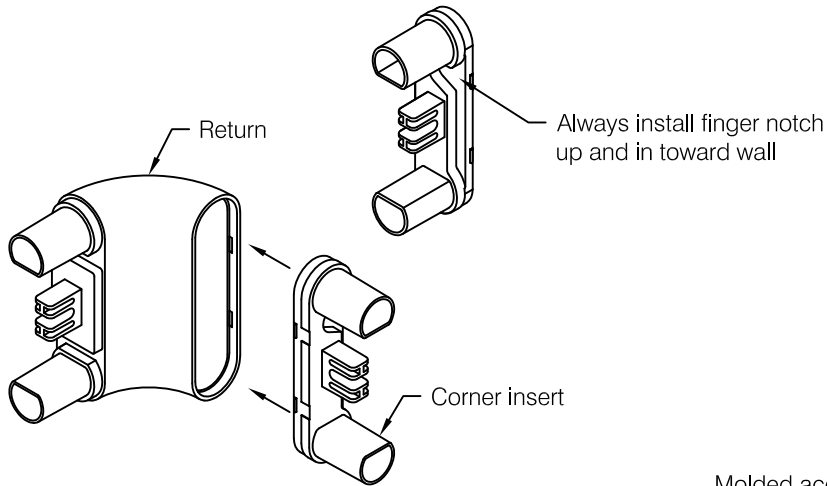

fig 3
Step 5: Assemble inside and outside corner accessories by snapping corner insert into the molded return, see **fig 3**. Always install the insert with finger notch up and in toward wall. It may be necessary to reverse the position of the molded return to accomplish the correct insert orientation.